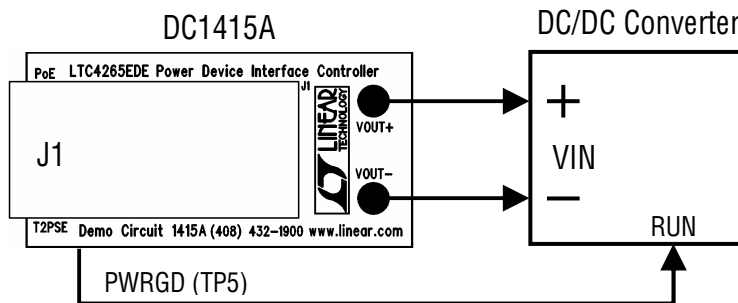
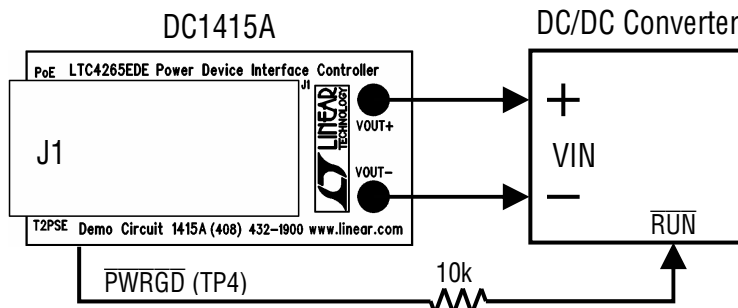
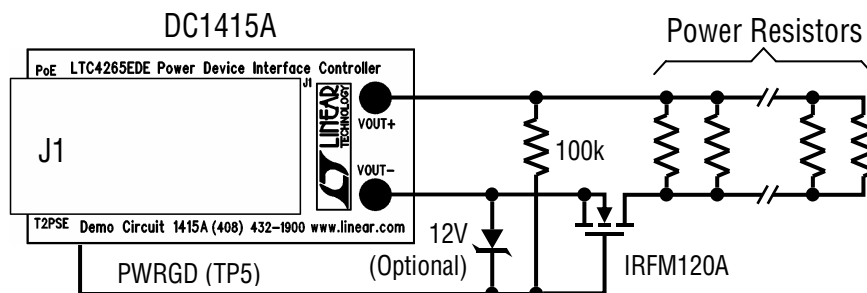

Figure 2. Connecting to a DC/DC Converter with Active-High RUN pin.
Figure 3. Connecting to a DC/DC Converter with Active-Low RUN pin.
Figure 4. Connecting to a Resistive Load.
- b. Use Figure 2 or Figure 3 if the startup delay could be an issue.
- c. Use Figure 4 if the load is resistive.
Use PWRGD if the DC/DC converter has an active-high control input, as shown in Figure 2.
Use $\overline{\text{PWRGD}}$ if the DC/DC converter has an active-low control input, as shown in Figure 3. A 10k resistor limits the current between $\overline{\text{PWRGD}}$ and $\overline{\text{RUN}}$ in the event of a voltage transient at the J1 input. A resistive load may be used to evaluate the thermal properties of the LTC4265; in this case use a series MOSFET to prevent startup problems, as shown in Figure 4. PWRGD holds the MOSFET gate low until the LTC4265 is ready to supply full current.
CAUTION: The MOSFET may be destroyed if its gate is pulled all the way to $V_{\text{OUT+}}$ by the pull-up resistor. The MOSFET is protected by a 14V clamp inside the LTC4265; however, if the wire to PWRGD were disconnected – or mistakenly connected to $\overline{\text{PWRGD}}$ – then the MOSFET would not be protected. Therefore it is recommended to use a zener diode connected directly across the gate and source pins of the MOSFET as shown in Figure 4.